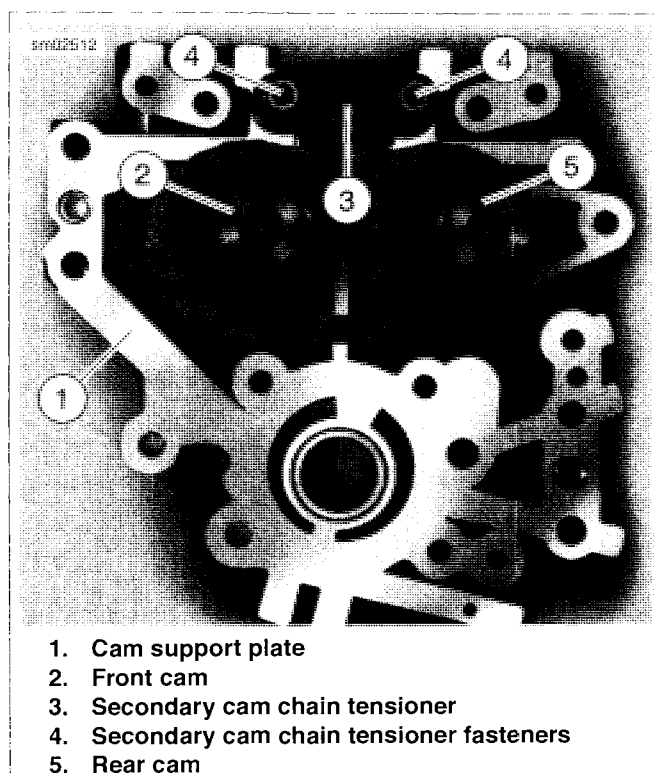

Figure 3-125. Camshafts
1. See Figure 3-125. Remove screws (4) and remove secondary cam chain tensioner (3).